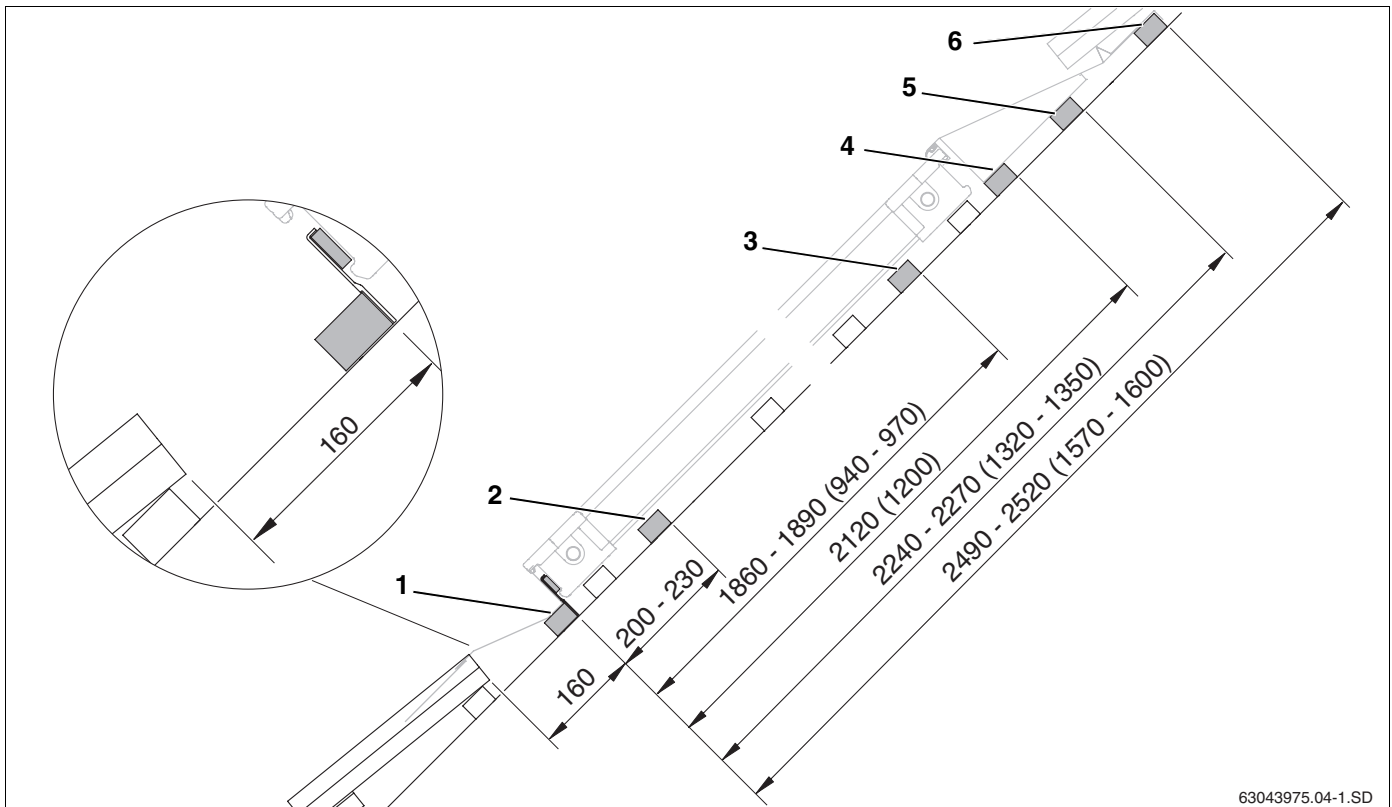

Fig. 14 Distances between additional roof battens when installing one row (measurements in mm, values in brackets = landscape version)
- ▶ Attach first roof batten with the anti-slip protection devices (Fig. 14, **Item 1**).
- ▶ Attach second roof batten for the lower side clamp (Fig. 14, **Item 2**).
- ▶ Attach third roof batten for the upper side clamp (Fig. 14, **Item 3**).
- ▶ Attach fourth roof batten for supporting the polystyrene wedge of the upper facing panels (Fig. 14, **Item 4**).
- ▶ Attach fifth roof batten for supporting the upper facing panels (Fig. 14, **Item 5**).
- ▶ Attach sixth roof batten for supporting and fastening the upper facing panels (Fig. 14, **Item 6**).
When installing more than one row, the roof battens in the first row must be laid just as if you were installing one row (Fig. 14). The 5th and 6th batten for the lower row are not needed.